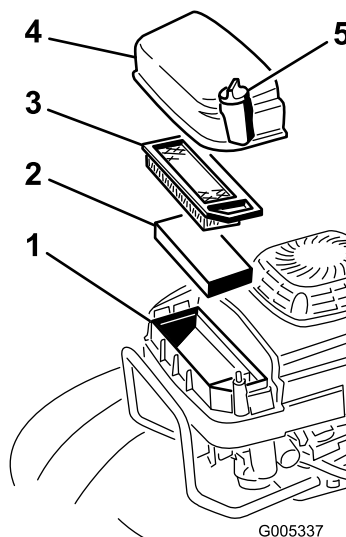

Figure 29
2. Remove the screw that secures the air filter cover (Figure 29).
3. Remove the cover and clean it thoroughly (Figure 29).
4. Remove and inspect the paper air filter (Figure 29), and discard it if it is excessively dirty.